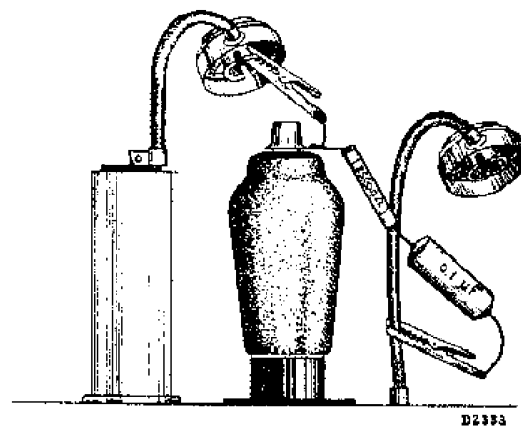

Fig. 3
6. Damp the second circuit by coupling a 25,000 ohms resistance with 0.1 μF in series between the top connection of L2 and the chassis (see fig. 3).
5. Couple damping resistance 25,000 ohms + 0.1 μ F between the top of L2 and the chassis (fig. 3).